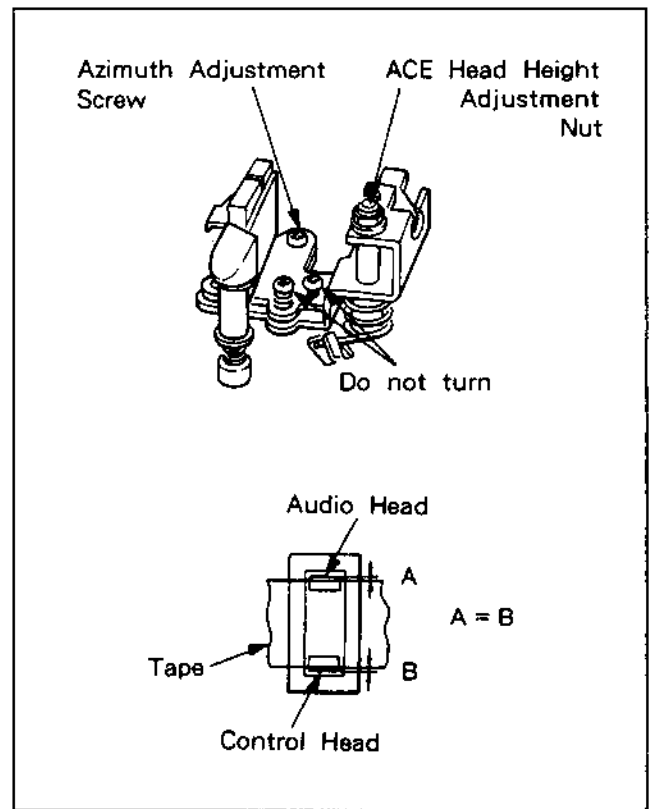

Fig. 5-4-3. (2) Pre-set for Compl Head Bracket
(2) COMPL Head Bracket (ACE Head) (See Fig. 5-4-3.)